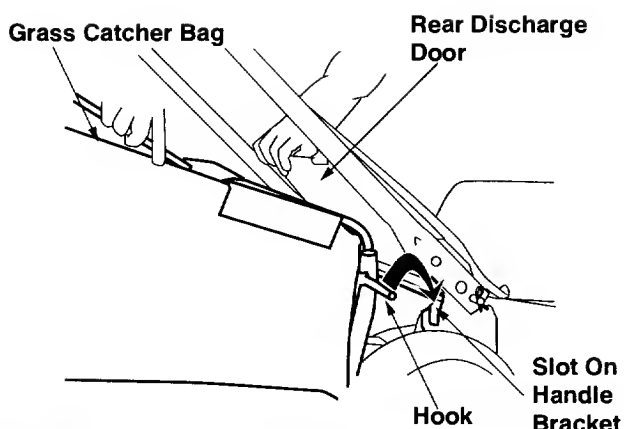

Figure 7
- Place the hooks of the grass catcher into the slots in the handle bracket assembly on each side of the lower handle. See figure 7. Release the rear discharge door.